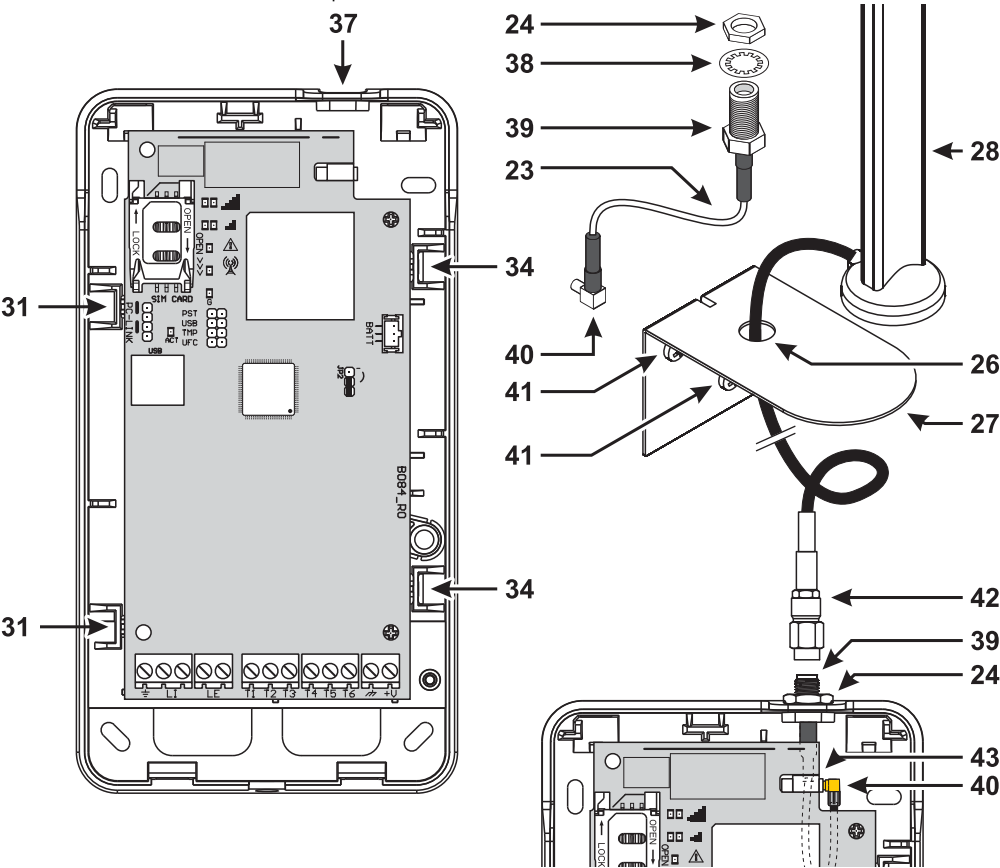

Figure 5 – Installing the antenna ANT5-02.
The ANT5-02 has greater gain than the communicator's integrated antenna in the version with housing, and can be mounted indoors within 2 meters of the communicator, to improve GSM reception, as described below and shown in figure 5.
*Make sure the adapter cable is routed as shown in figure 5.*